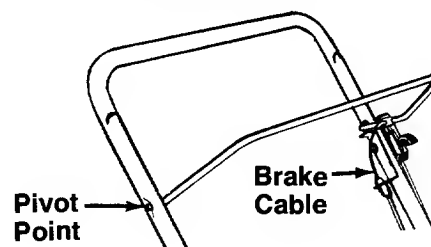

FIGURE 15.
**Blade Control**—Lubricate the pivot points on the blade control handle and the brake cable at least once a season with light oil. See figure 15. The blade control must operate freely in both directions.